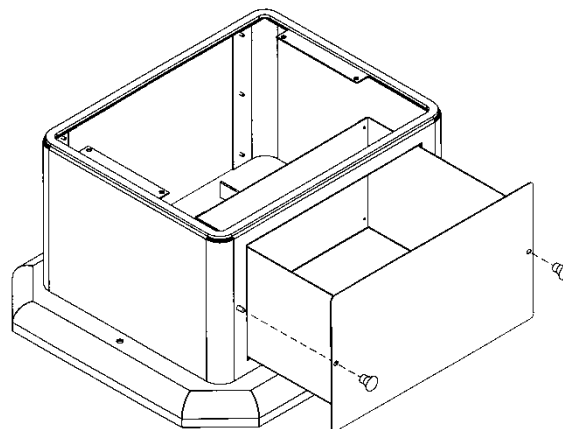

FIGURE 16
- f. Periodically remove and empty ash bin (see Figure 16) by unscrewing the two knobs on the front of the pedestal below the lower cowl. Dispose of ashes properly. (See "**ASH REMOVAL**" above)